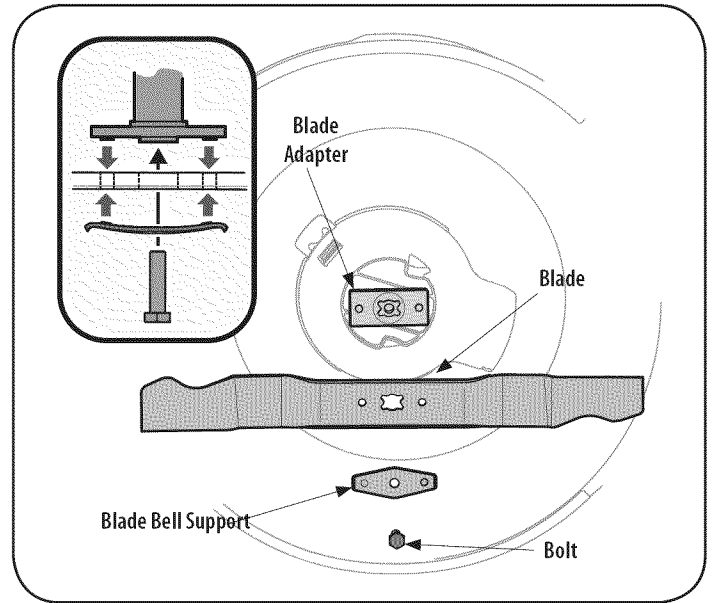

Figure 15
2. Remove the bolt and the blade bell support which hold the blade and the blade adapter to the engine crankshaft. See Figure 15.
5. Lubricate the engine crankshaft and the inner surface of the blade adapter with light oil. Slide the blade adapter onto the engine crankshaft. Place the blade on the adapter such that the side of the blade marked "Bottom" (or with part number) faces the ground when the mower is in the operating position. Make sure that the blade is aligned and seated on the blade adapter flanges. See Figure 15 inset.